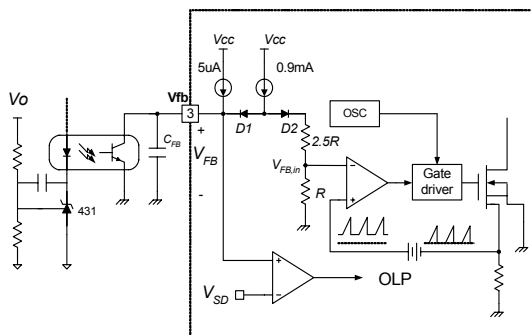

Figure 5. Pulse Width Modulation (PWM) Circuit
2. Feedback Control : The FSDx0265RN employs current mode control, as shown in Figure 5. An opto-coupler (such as the H11A817A) and shunt regulator (such as the KA431) are typically used to implement the feedback network. Comparing the feedback voltage with the voltage across the Rsense resistor plus an offset voltage makes it possible to control the switching duty cycle. When the KA431 reference pin voltage exceeds the internal reference voltage of 2.5V, the optocoupler LED current increases, the feedback voltage Vfb is pulled down and it reduces the duty cycle. This event typically happens when the input voltage is increased or the output load is decreased.
4.4 Over Voltage Protection (OVP) : In the event of a malfunction in the secondary side feedback circuit, or an open feedback loop caused by a soldering defect, the current through the opto-coupler transistor becomes almost zero (refer to Figure 5). Then, V_{FB} climbs up in a similar manner to the over load situation, forcing the preset maximum current to be supplied to the SMPS until the over load protection is activated. Because excess energy is provided to the output, the output voltage may exceed the rated voltage before the over load protection is activated, resulting in the breakdown of the devices in the secondary side. In order to prevent this situation, an over voltage protection (OVP) circuit is employed. In general, V_{CC} is proportional to the output voltage and the FPS uses V_{CC} instead of directly monitoring the output voltage. If V_{CC} exceeds 19V, OVP circuit is activated resulting in termination of the switching operation. In order to avoid undesired activation of OVP during normal operation, V_{CC} should be properly designed to be below 19V.